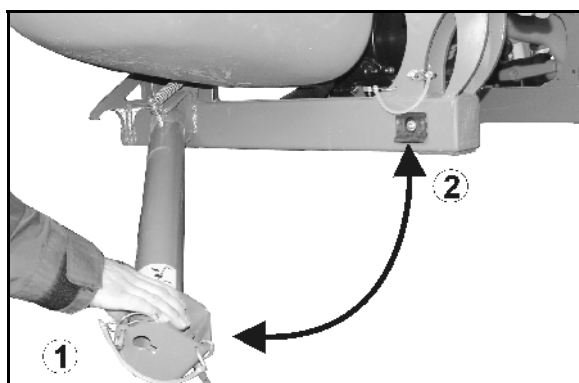

Fig. 26
- back (Fig. 26/1) into the park position.
- forwards (Fig. 26/2) into the transport position.